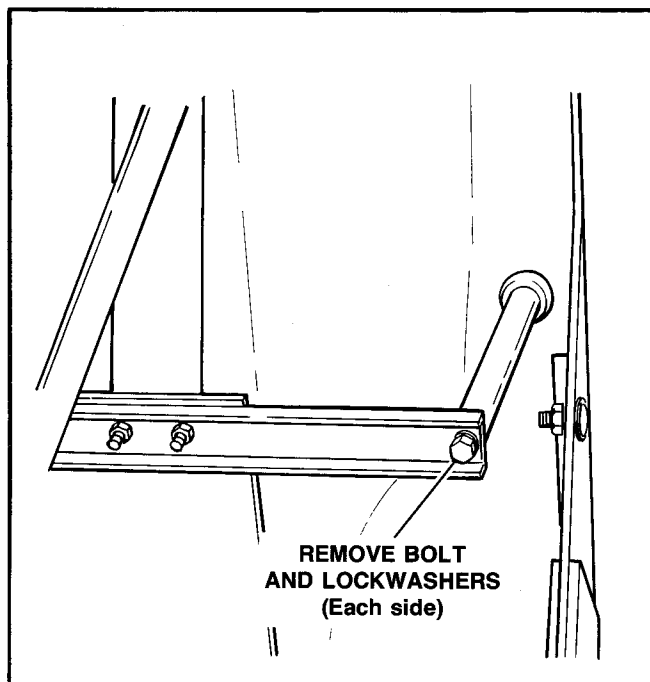

Figure 42 – Angle Bag Rack
24. ANGLE BAG RACK (Figure 42)